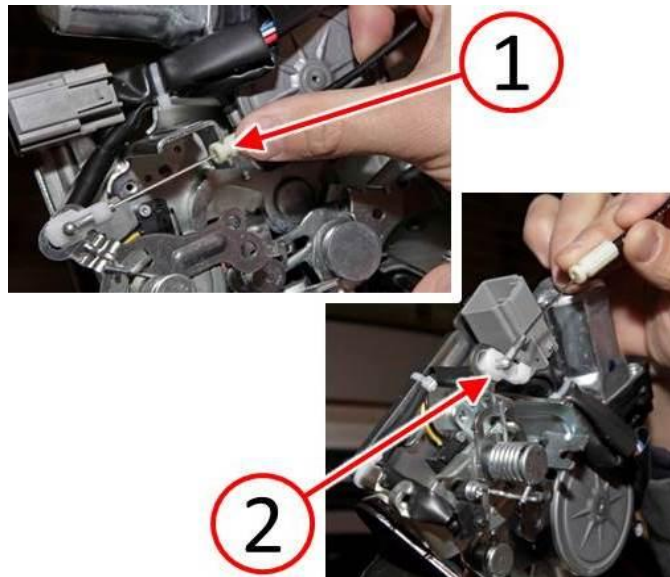

Fig. 5 Disconnect Liftgate latch Cable
10. Remove the latch cable ferrule (1) from the latch (Fig. 5).
11. Disconnect the latch cable end (2) from the latch (Fig. 5).